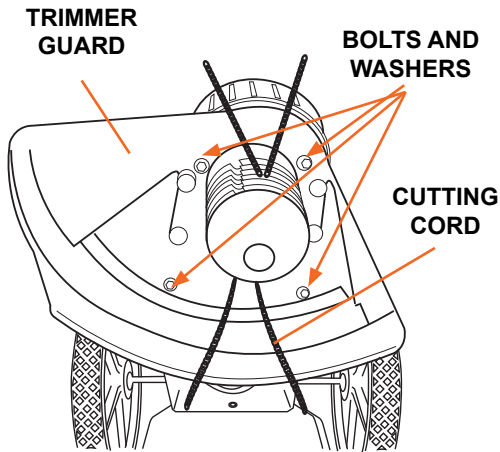

Figure 14
3. Remove the four debris guard bolts and flat washers with a 10mm wrench. Remove the trimmer guard (Figure 14).